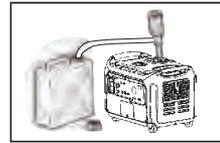

Figure 1
2. To drain the gasoline from the fuel tank (Figure 1), turn the engine switch to the "OFF" position.